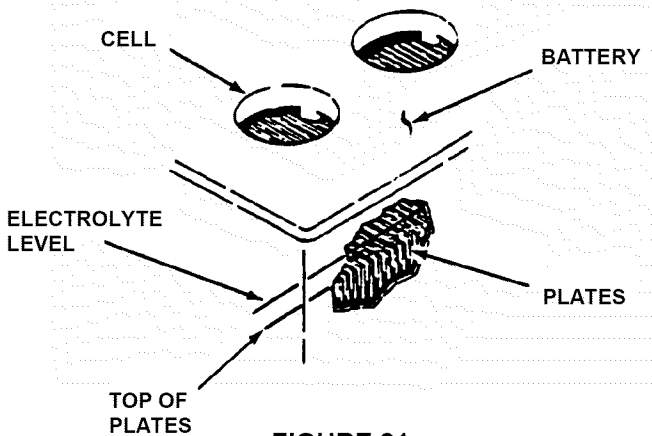

FIGURE 21
- C. Remove battery cell caps. Fill cells as required with electrolyte to proper level. See Figure 21.